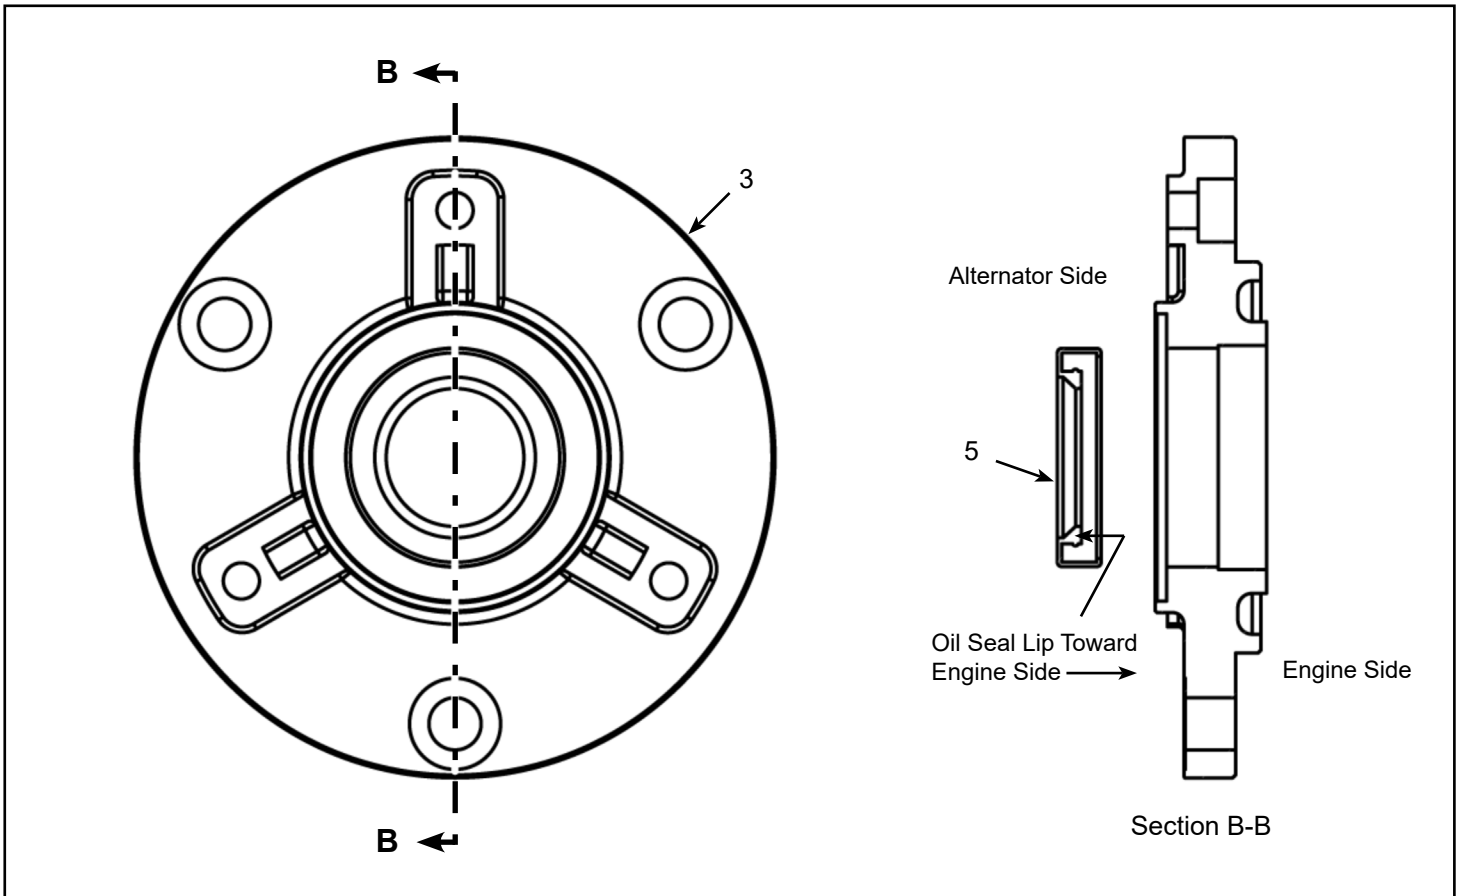

Figure 3 - Oil Seal Orientation
- NOTE:** Push the oil seal from the engine side of the mounting flange (3). See **Figure 3**.
- (g) Using an arbor press and adequate push tool, press new oil seal (5) from alternator side of the mounting flange (3) with oil seal (5) lip facing down (toward engine). Press flush to .015 in. below flush with oil seal bore. See **Figure 3**, Oil Seal Orientation.
- (h) Lubricate lip of oil seal (5) with engine oil.
- (i) Remove and discard the O-ring (2) from the drive end housing (1).
- (j) Apply a mild solvent to a non-metallic bristle brush and remove oil/grease and any cured threadlocker present in the drive end housing (1) threads. Ensure debris does not enter the alternator housing.
- (k) Install new O-ring (2) onto the drive end housing (1). Lubricate O-ring with engine oil.
- (l) Apply LOCTITE® 272 threadlocker to the threads of the drive end housing (1).
- (m) Install the alternator mounting flange (3) onto the alternator drive end housing (1). Secure with three new mounting flange bolts (4) to snug condition.
- (n) Torque alternator mounting flange bolts (4) to 85-90 in-lbs.